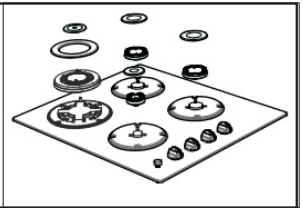

Figure 11
- Remove the burner cap and the adapter(Figure 11).